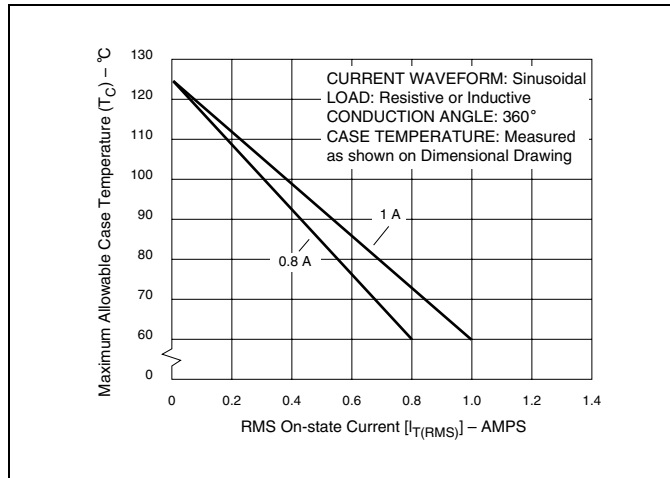
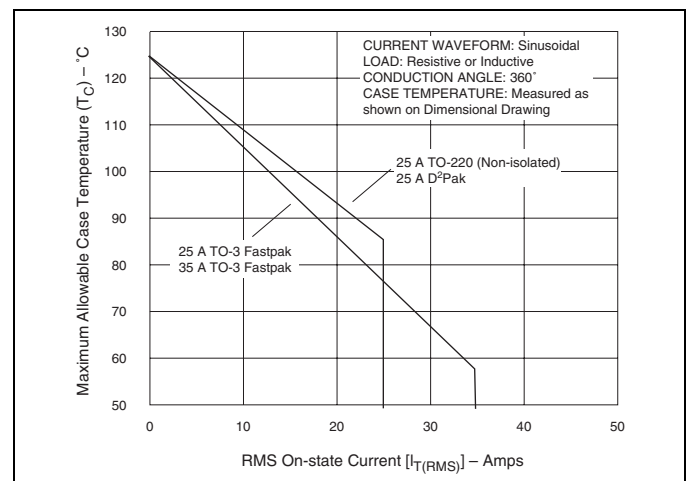
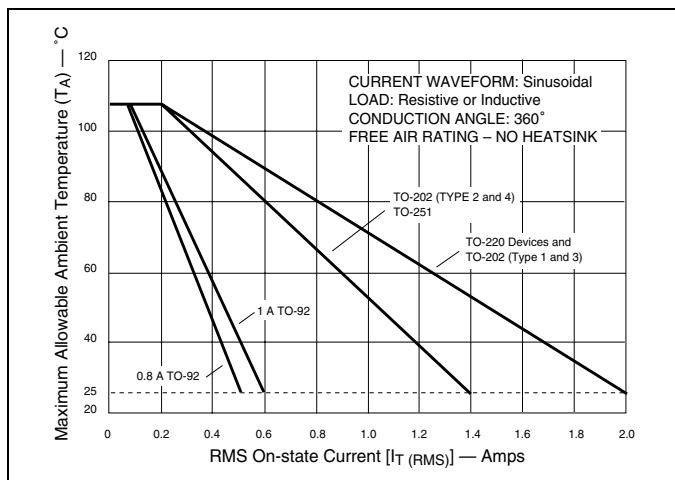
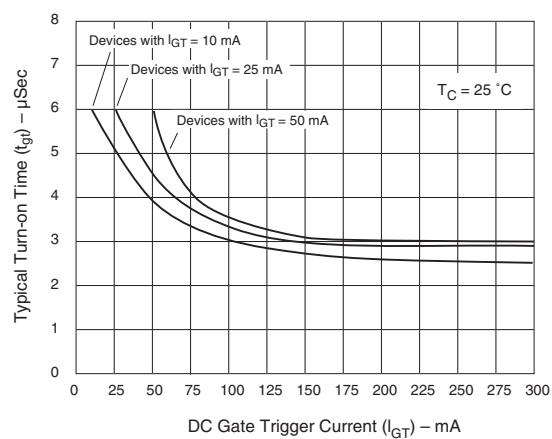

Figure E2.1 Maximum Allowable Case Temperature versus On-state Current (0.8 A and 1 A)
Figure E2.6 Maximum Allowable Case Temperature versus On-state Current (25 A and 35 A)
Figure E2.7 Maximum Allowable Ambient Temperature versus On-state Current
Figure E2.15 Turn-on Time versus Gate Trigger Current (Typical)
- (1) For either polarity of MT2 with reference to MT1 terminal
- (2) For either polarity of gate voltage (V_{GT}) with reference to MT1 terminal
- (3) See Gate Characteristics and Definition of Quadrants.
- (4) See Figure E2.1 through Figure E2.7 for current rating at specific operating temperature.
- (10) See Figure E2.15 for t_{gt} versus I_{GT} .
- (11) See package outlines for lead form configurations. When ordering special lead forming, add type number as suffix to part number.
- (12) Initial on-state current = 200 mA dc for 0.8 A to 10 A devices, 400 mA dc for 15 A to 35 A devices
- (13) See Figure E2.1 through Figure E2.6 for maximum allowable case temperature at maximum rated current.
- (14) Pulse width $\leq 10 \mu s$; $I_{GT} \leq I_{GTM}$
(18) Quadrants I, II, III only
(19) Minimum non-trigger V_{GT} at $125^\circ C$ is 0.2 V for all except 50 mA MAX QIV devices which are 0.2 V at $110^\circ C$.